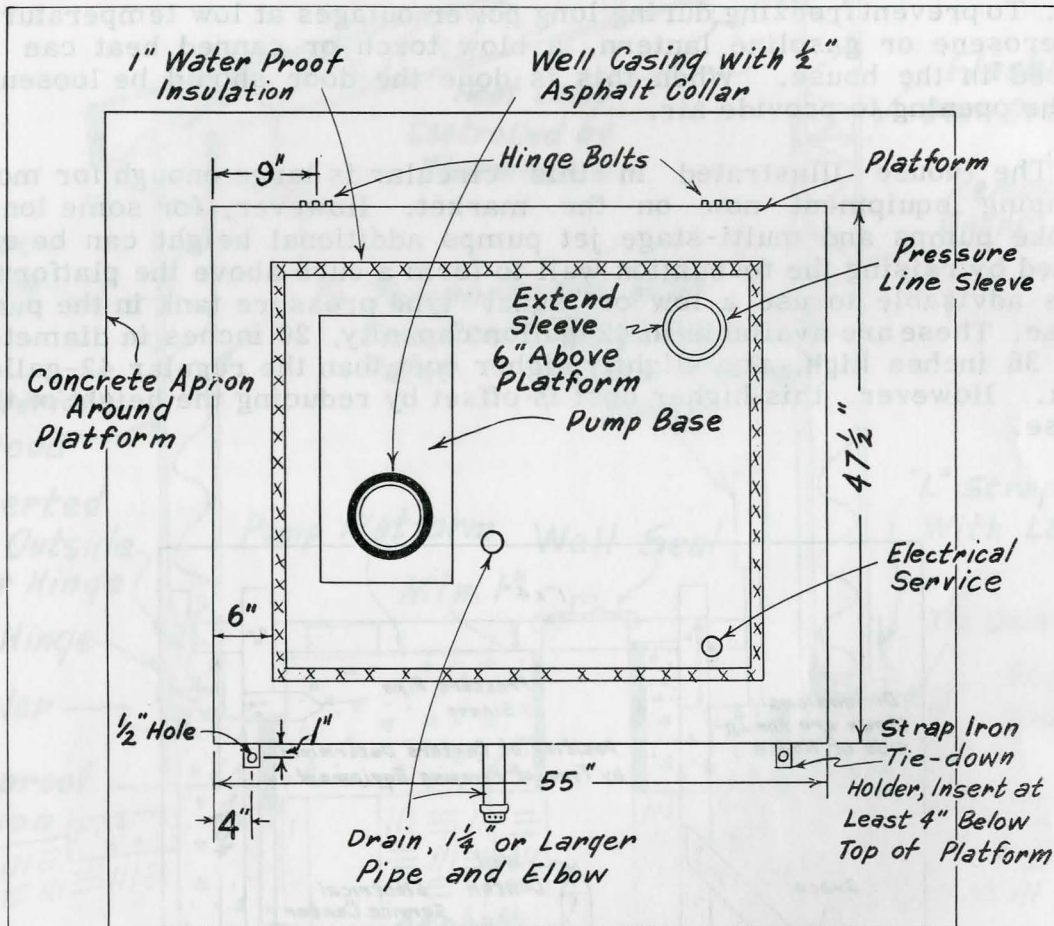
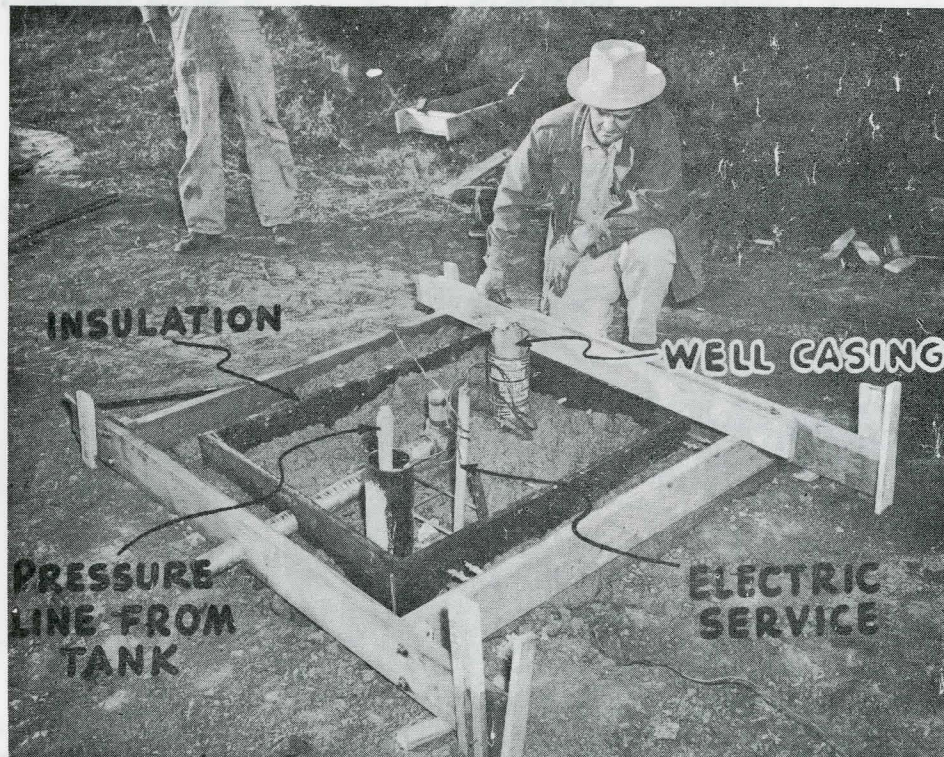

FIGURE NO. 4 - Concrete Platform Plan -
Figure No. 6 View showing forms staked in place and concrete being placed.
8. Platform forms can be built of 2" x 6" material. Construct as shown in Figure No. 6 with dimensions as shown in Figure No. 4. This allows house to extend 1/2 inch beyond platform. Before assembling forms, make holes for hinge bolts, drain pipe, and tie-down straps. Holes in hinges should be drilled to 3/8 inch. Drain should discharge to south side of house. Thread outer end of drain pipe.